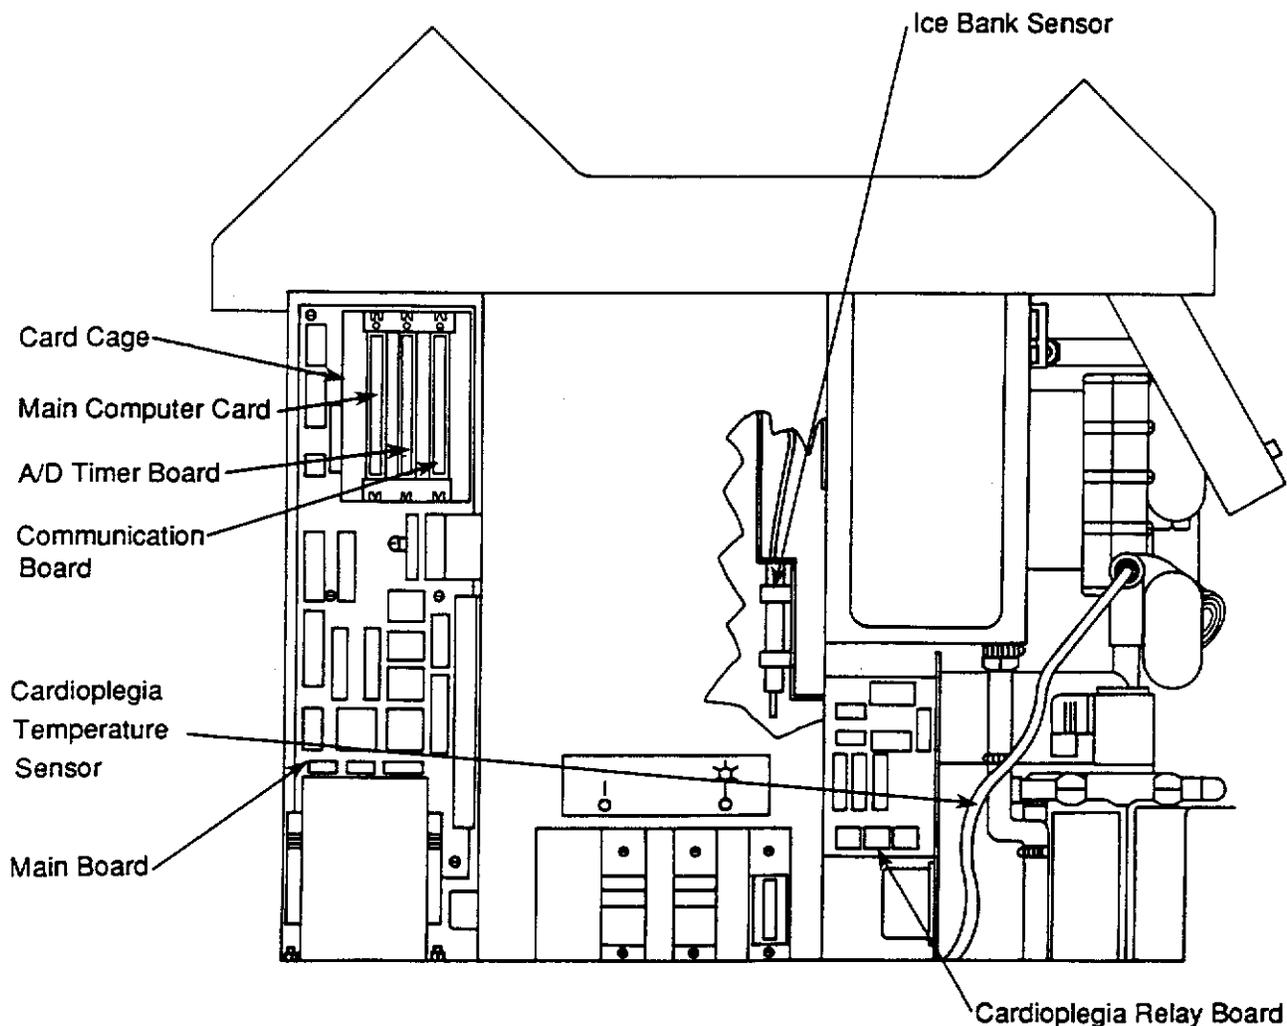

Figure 3-1. Printed Circuit Boards
3.3 Main Computer Card, A/D Timer Board and Communication Board (See figure 3-1.)
3.4 Main Board (See figure 3-1.)
4. Remove six screws attaching board to the chassis (See Figure 3-1.). Holding the board in one hand and gripping the card cage in the other, carefully slide assembly from the TCM.
3.10 Cardioplegia Temperature Sensor (See figure 3-1.)